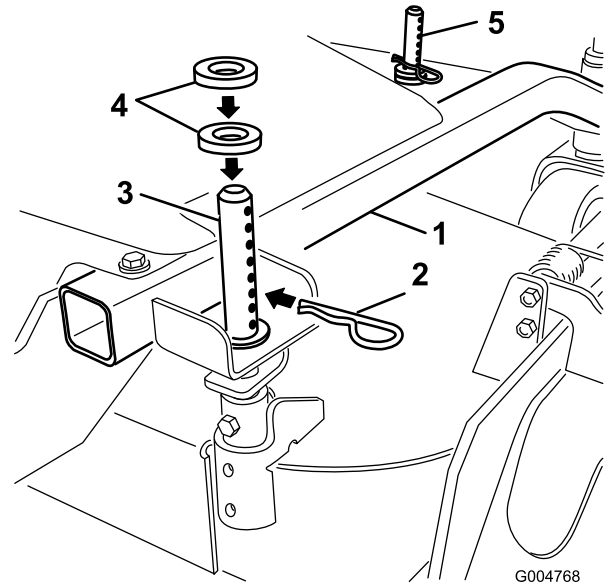

Figure 13
1. Select hole in height-of-cut post and number of spacers corresponding to the height-of-cut desired (Figure 13).
2. Using the lift handle, raise side of deck and remove hairpin cotter (Figure 13).
3. Add or remove spacers if needed and then align the holes and insert the hairpin cotter (Figure 13).